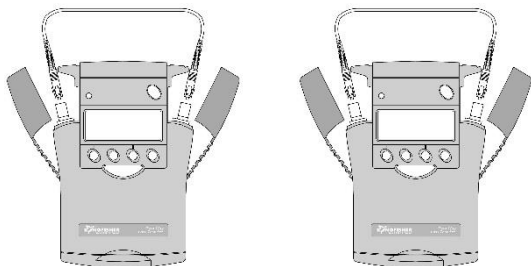

Figure 8. Reference setup for Two Way Calibration Accuracy Test
1. Connect the instruments as shown in Figure 8, using one test lead per instrument: